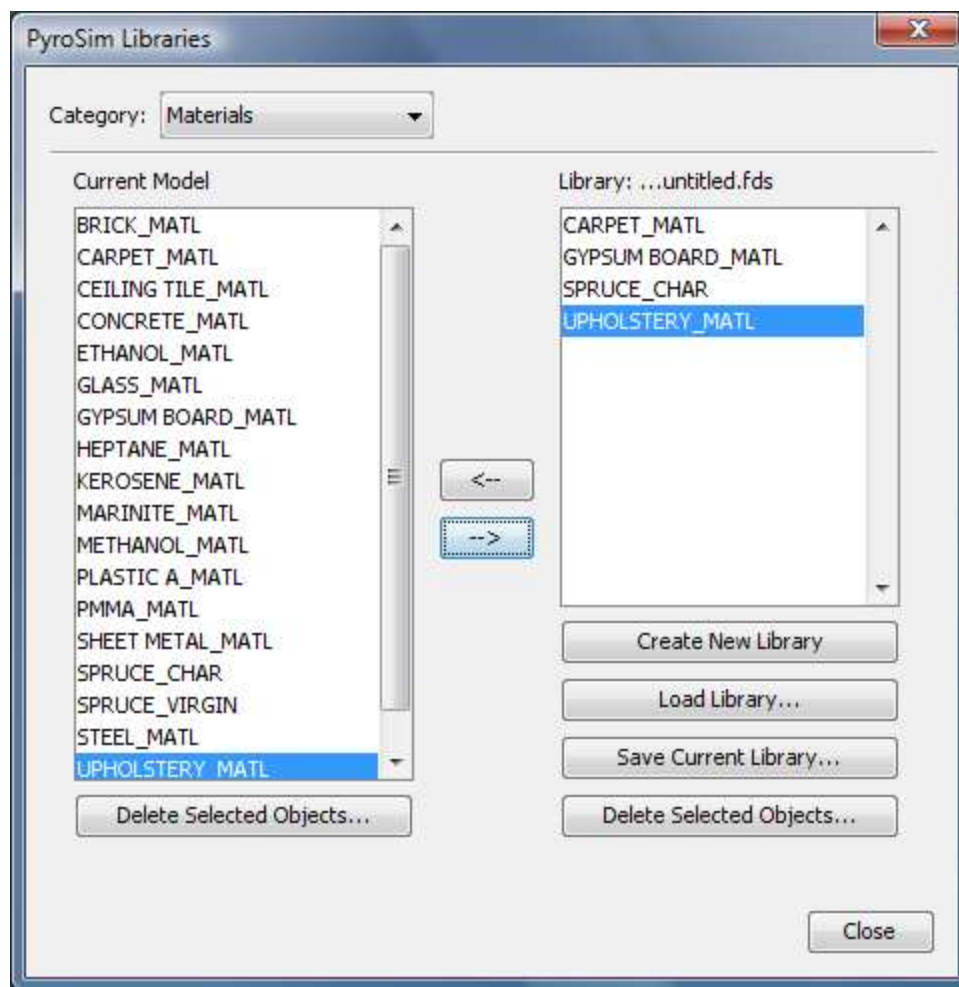

Figure 147. Creating a library of materials
2. Select the **Category** that you want to manage and move selected items from the **Current Model** into the **Library**, Figure 147.